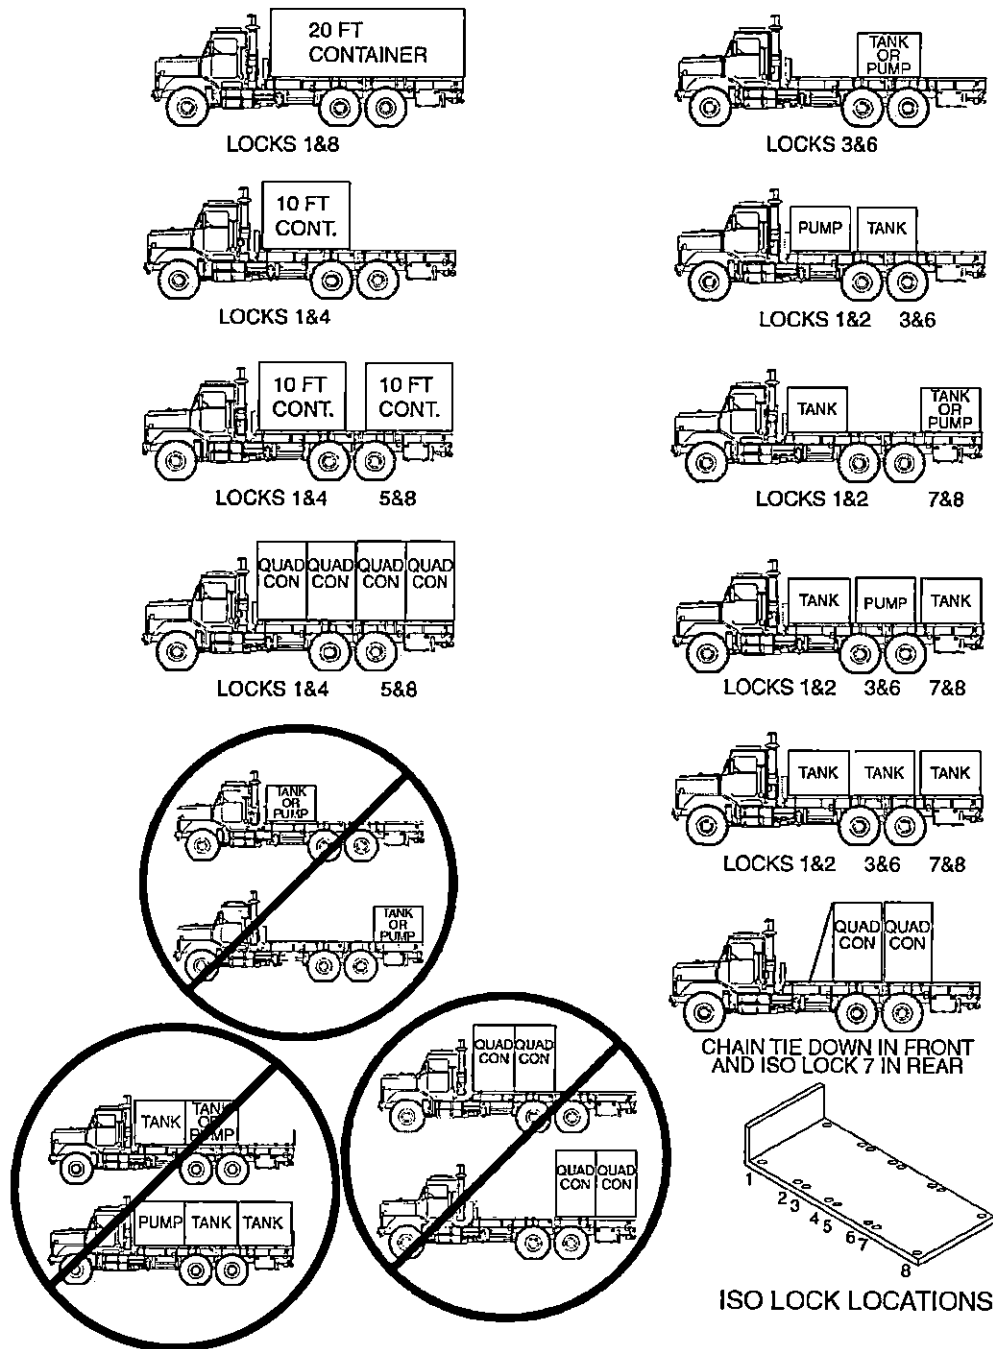

Figure 2. Extended Wheel Base Cargo (MK27 And MK28).
1. Distributed Payload. The vehicle is capable of carrying 7.1 tons (6,447 kg) off road and 15 tons (13,620 kg) on road. Payload center of gravity shall be placed at the approximate center of cargo area. (Refer to Figure 2).